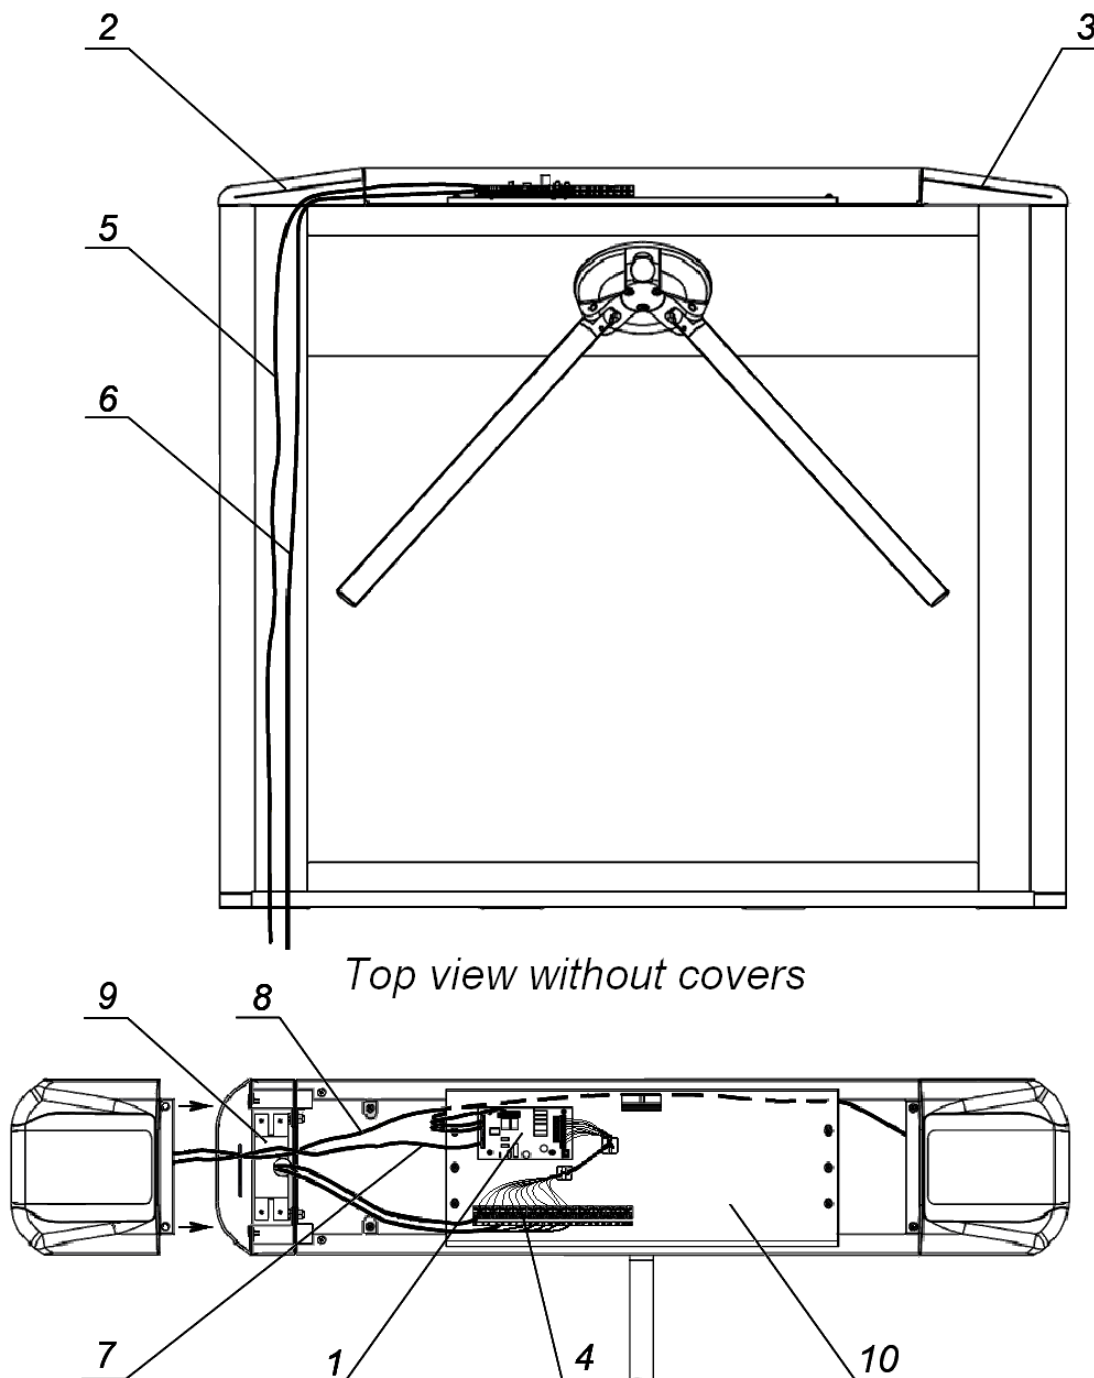
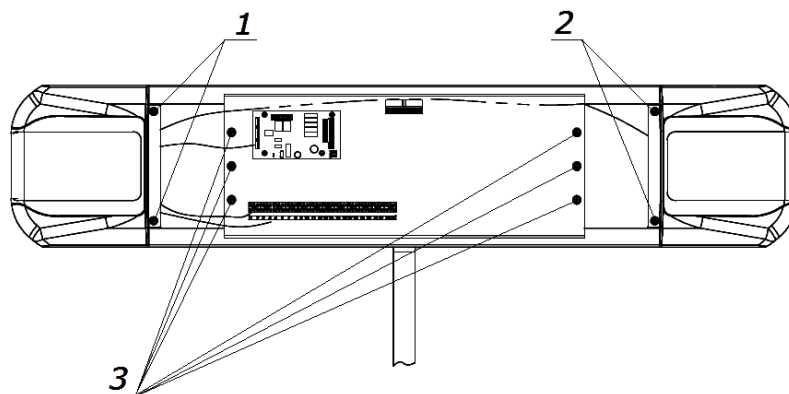

Figure 12 – Cable layout inside the housing
Figure 15 – Layout of bracket cap-screws
4. If you lay the cables under the floor surface, prepare the electric raceway to the cables laying zone of the turnstile housing. The cables layout inside the turnstile housing is shown in Fig. 12.
2. Remove the turnstile housing top cover (3) (Ref. Section 6).
5. Remove the turnstile housing side cover (7), assembled with a top cover (9). For this purpose:
- Loosen two screws (2 in Fig. 15).
- Remove the wall from the housing and disconnect the cable, connecting indication plates (8 on Fig. 12) from indication plate 2, located under the cover.
6. Remove the turnstile housing side cover (6), assembled with a top cover (8). In order to do that:
- Loosen two screws (1 in Fig. 15).
- Take a side cover aside and detach a cable (8 in Fig. 12), connecting indication blocks, from indication block IM1 (located under a top cover), and an indication cable (7 in Fig. 12), from control block.
8. If needed, install the board of outer controller ACS inside the turnstile housing on the bracket (10 in Fig. 12); to do this, use clips with self adhesive foundations FSS-5 from the delivery set.
6. If needed, install card readers on, specially provided for it, brackets on the housing flanks (9 in Fig. 12). To ease the installation procedure, remove the bracket by loosening two nuts M3 with an open end wrench S5,5, located below under the bracket. To connect card readers use free contacts (15 - 24) of the remote connector block **XS1**.
2. Remove the turnstile top cover (3) from the turnstile housing as described in Section 6. Lay the cover on a flat steady surface.
3. To access the rotation unit of turnstile barrier arms, take off the bracket with control board and remote connector block. For this purpose: unscrew 6 screws (3 on Fig. 15), which fix the bracket on the turnstile housing and accurately take a bracket aside without damaging connected cables.